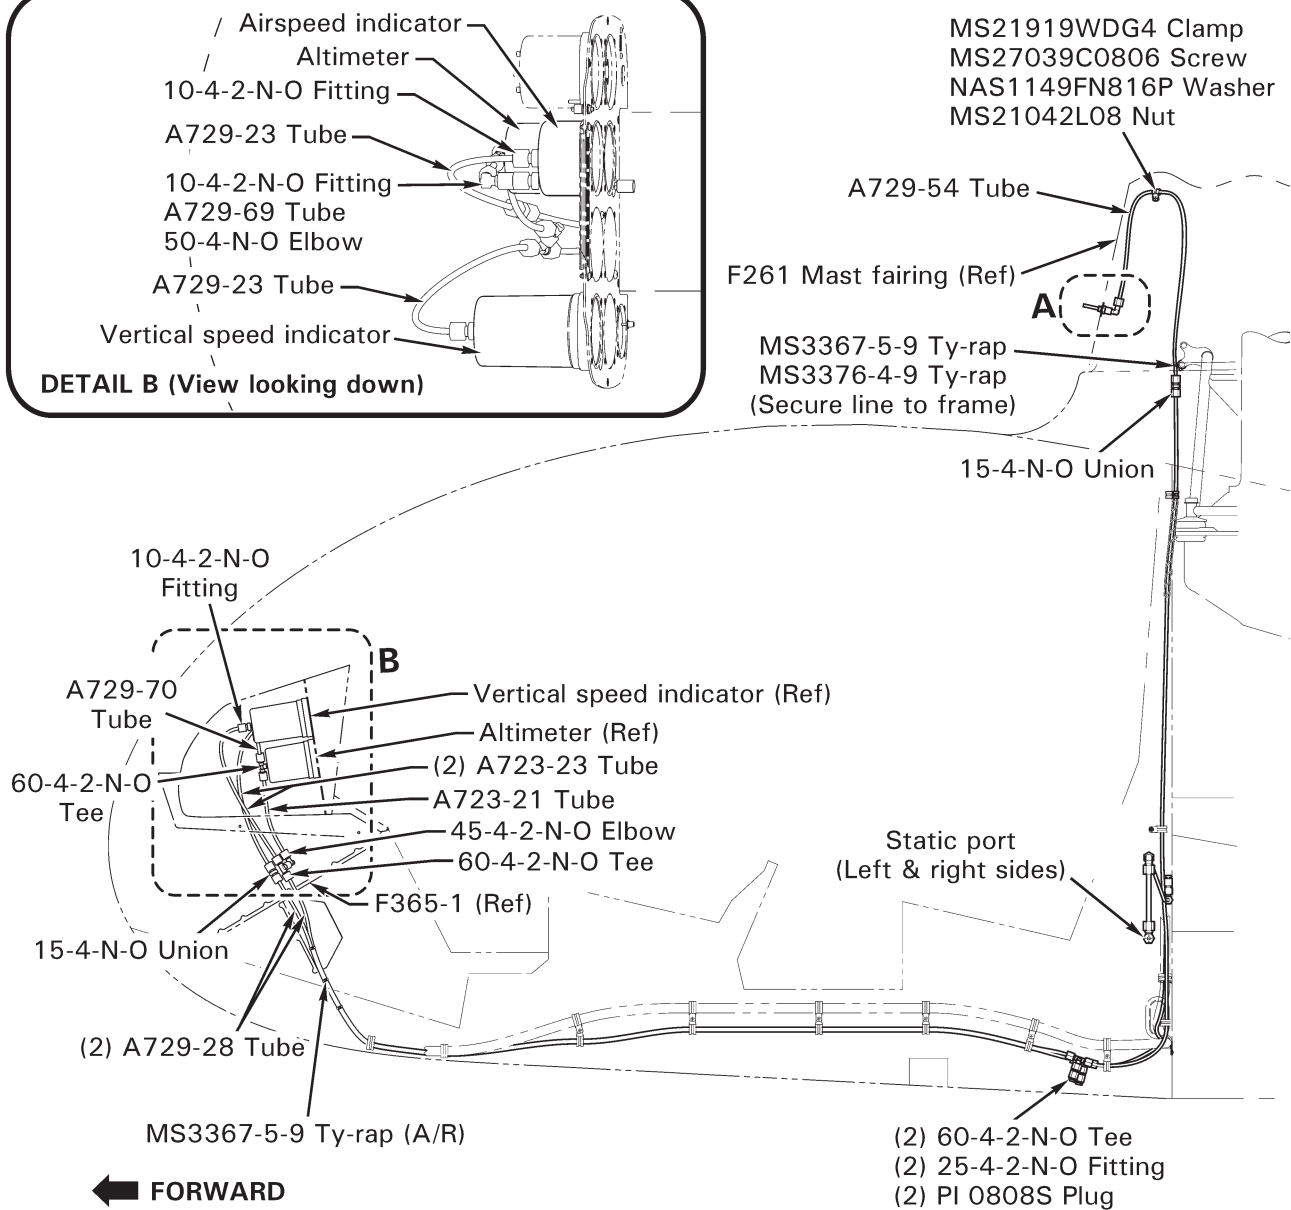

FIGURE 95-1 PITOT - STATIC SYSTEM INSTALLATION
2. Refer to Figures 95-1 and 95-2. Seal drain hole in elbow aft of pitot tube with pressure sensitive tape. Connect a medical syringe, with plunger withdrawn, to pitot tube via flexible tubing.
1. Refer to Figures 95-1 and 95-2. Set altimeter to location elevation.